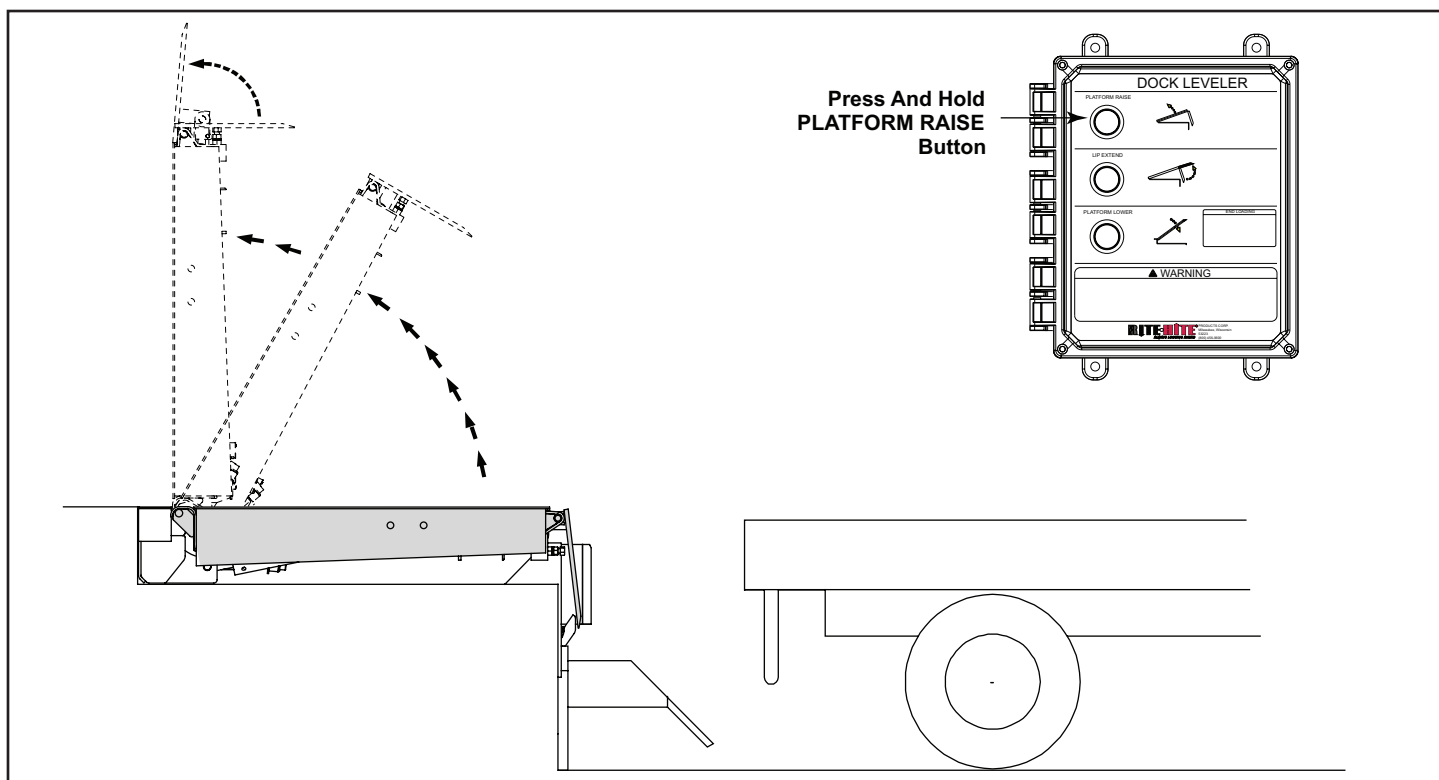

FIGURE 4 - RAISING THE LEVELER TO VERTICAL STORED POSITION
1. When the truck leaves, the lip will drop to the pendant position. Press and hold the PLATFORM RAISE button until the dock leveler raises to the fully upright position and the lip fully extends. See Figure 4.